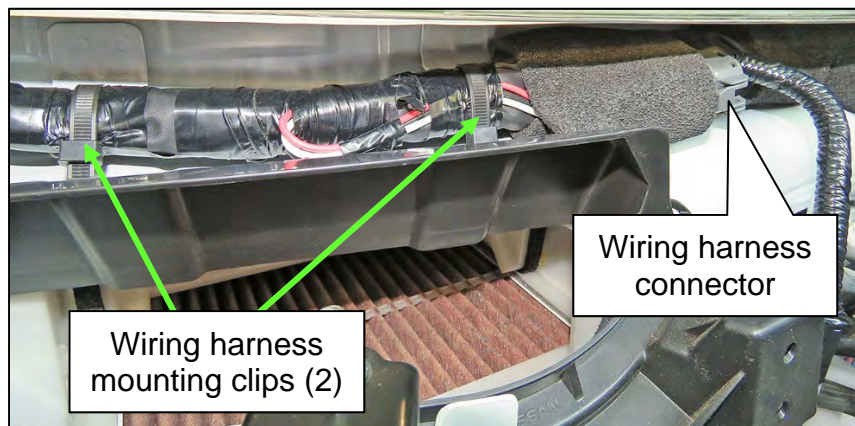

Figure 3
11. Disconnect the wiring harness connector shown in Figure 3.
12. Detach the two (2) engine control harness mounting clips (Figure 3).